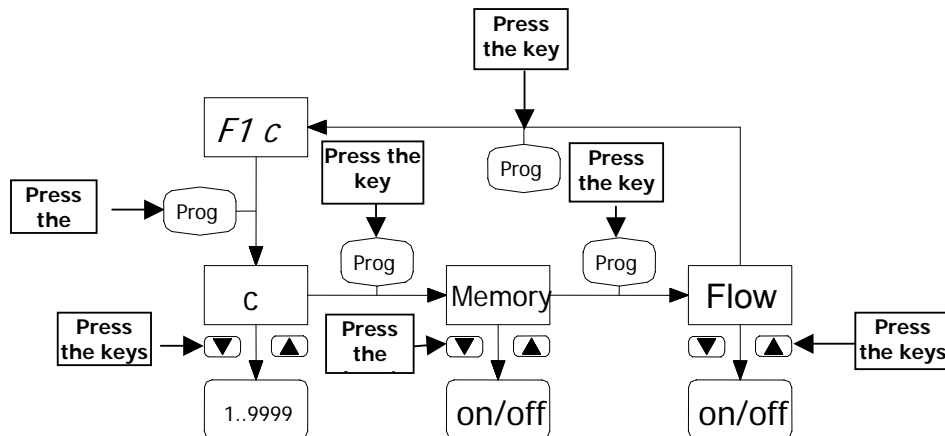

Fig. 26: 1:c Manual Mode Menu
– Selecting Impulses (See Fig. 26)
– **Memory Function (see Fig. 26)**
– **Flow Control Function (see Fig. 26)**